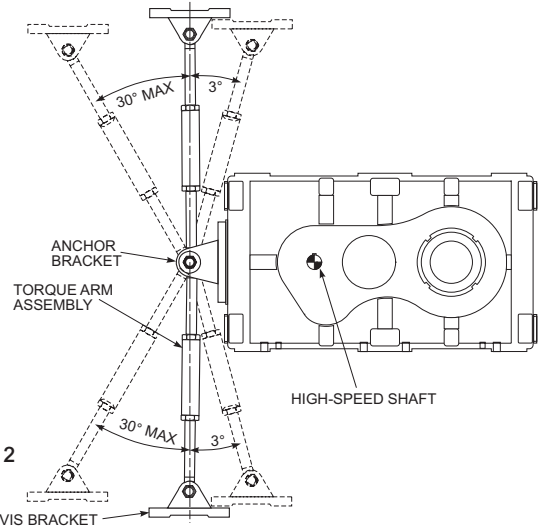

Figure 2
4. The exact position of the torque arm may vary within the range shown in Figure 2. For torque arm mountings other than shown, refer to the Factory. If it is necessary to shorten the torque arm assembly, cut the excess from either tie rod end on Sizes M1130 through M1190 only.